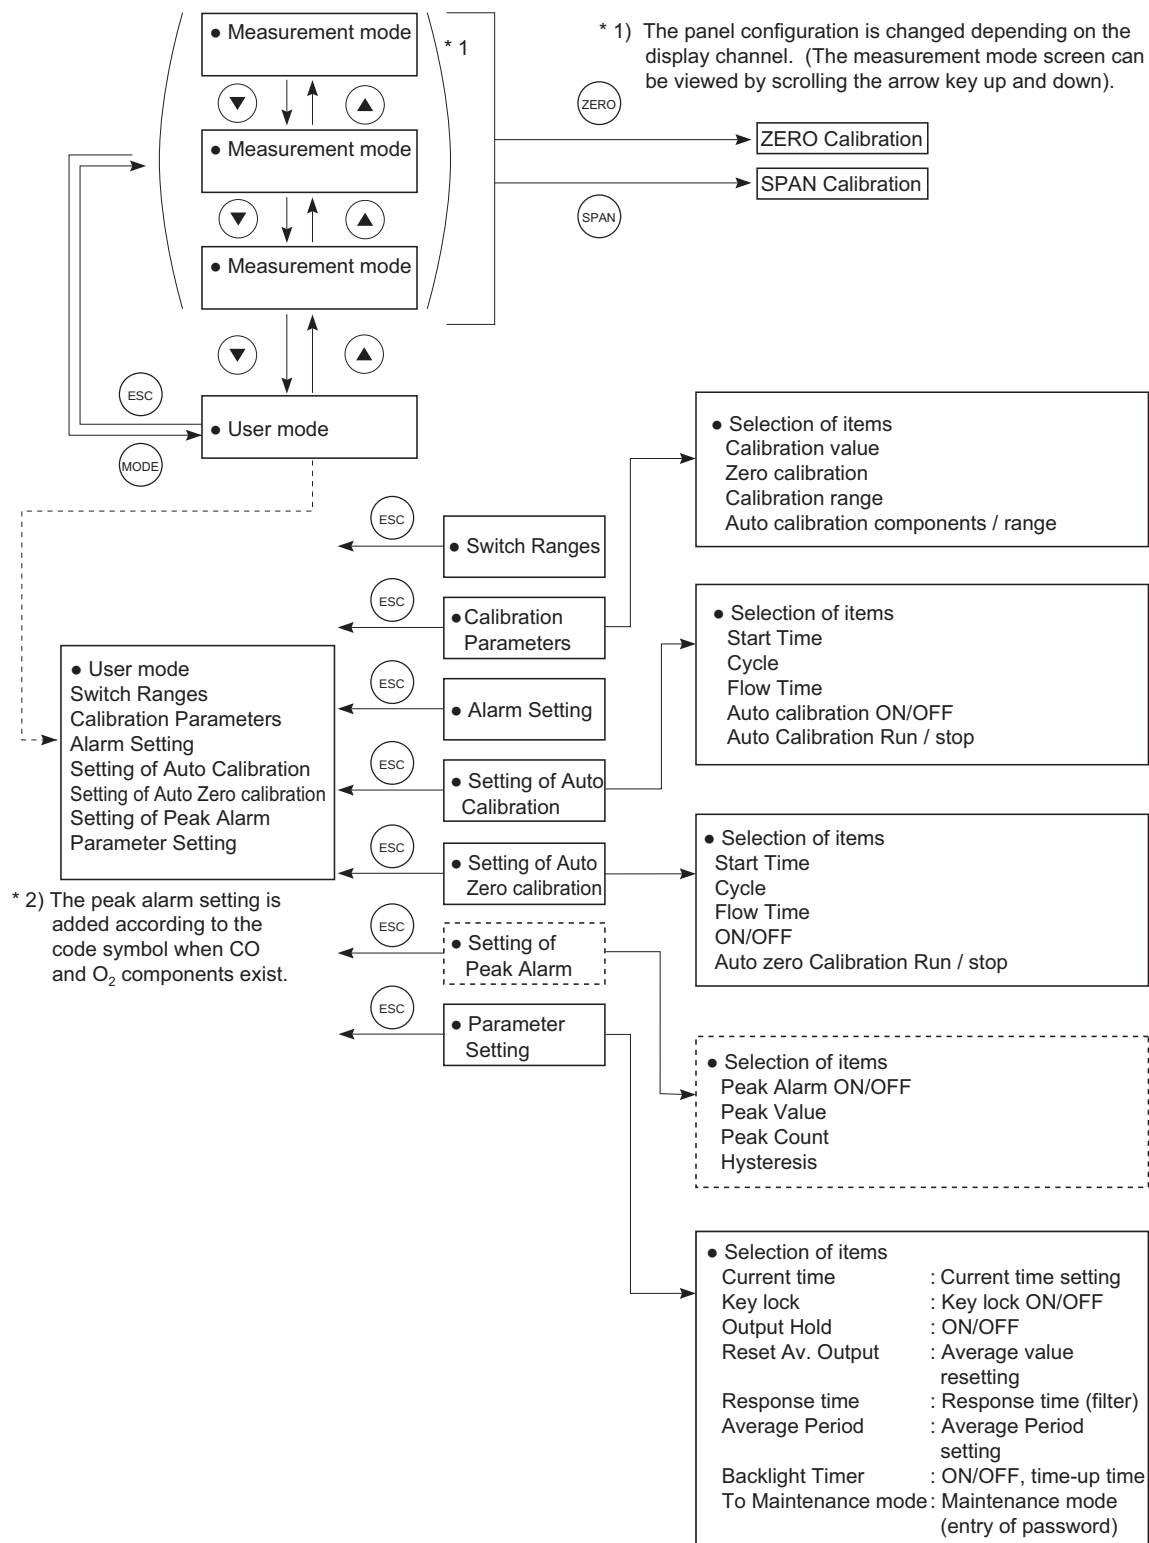

Fig. 5-2
- Page 5-2, Section 5.2, "Overview of display and operation panels": Changed of figure 5.2.
- Page 5-5, Section 5.3, "Outline of display screen" (3): Changed of table.